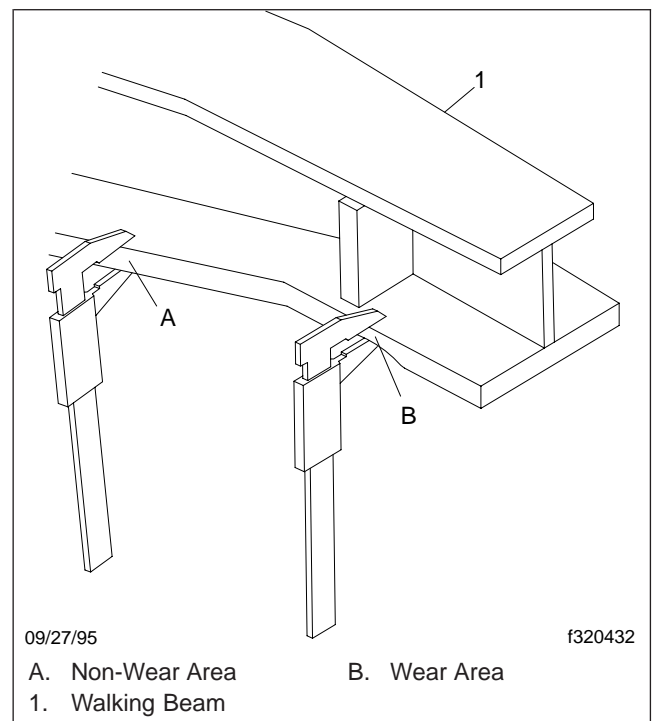

Fig. 13, Walking Beam End Wear Thickness
3. Manipulate the walking beam so that a micrometer, vernier, or dial caliper may be used to determine the wear area thickness on the bottom face. See **Fig. 13**. Measurements should be taken a minimum of 1/2 inch (13 mm) from the beam flange edges to eliminate any edge wear that may have occurred. Subtract the wear area thickness (**Fig. 13**, Ref. B) from the thickness at the non-wear area (**Fig. 13**, Ref. A) to determine the amount of wear.